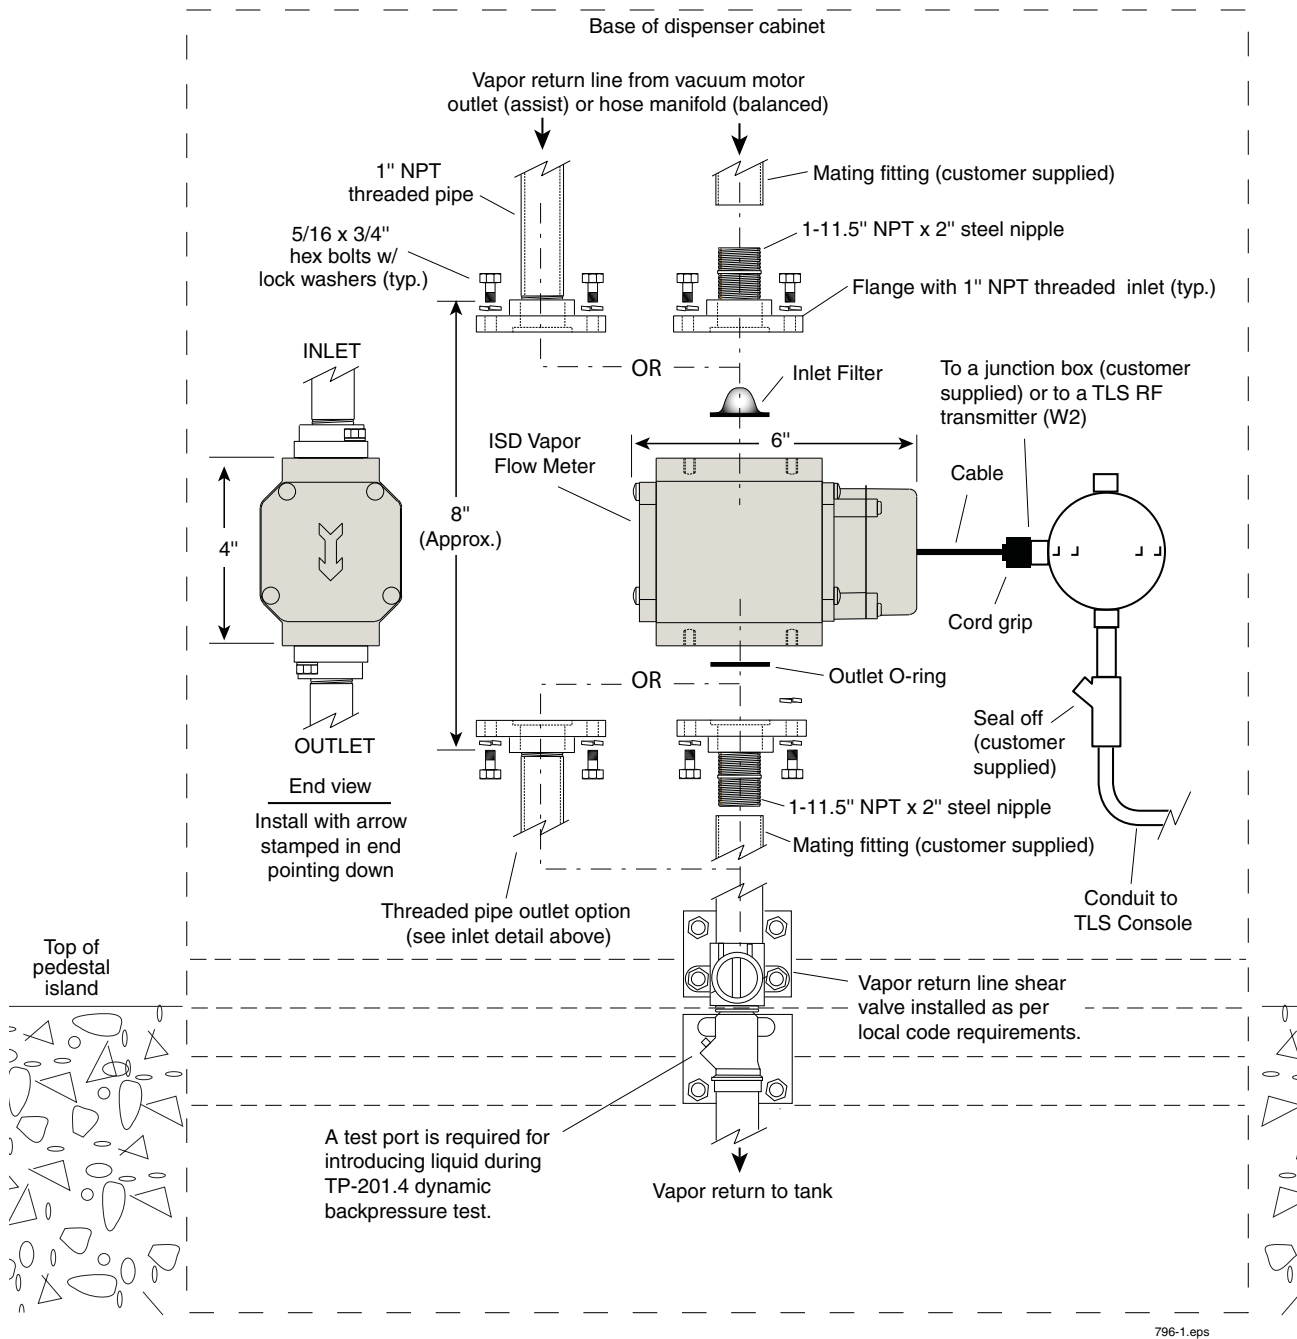

Figure 1. Example Vapor Flow Meter Installation Above Shear Valve
4. Disconnect the factory installed plumbing between the outlet of the vacuum motors and the field installed plumbing above the vapor shear valve, if present (see example installation in Figure 1). Retain the manufacturers installed piping for later use.